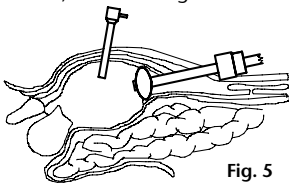

Fig. 5
5. If the extraperitoneal space is adequately dilated, air is discharged from the (bilateral) distension balloon after having disconnected the ball pump by removing the endoscope and opening the insufflation valve. If required, you may use the black suction port of the ball pump to evacuate the air. Carefully remove the (bilateral) PAJUNK® distension balloon system, dispose of properly and replace it by a PAJUNK® trocar system, a PAJUNK® structural or ring-anchor balloon system or another suitable instrument. (Fig. 5)